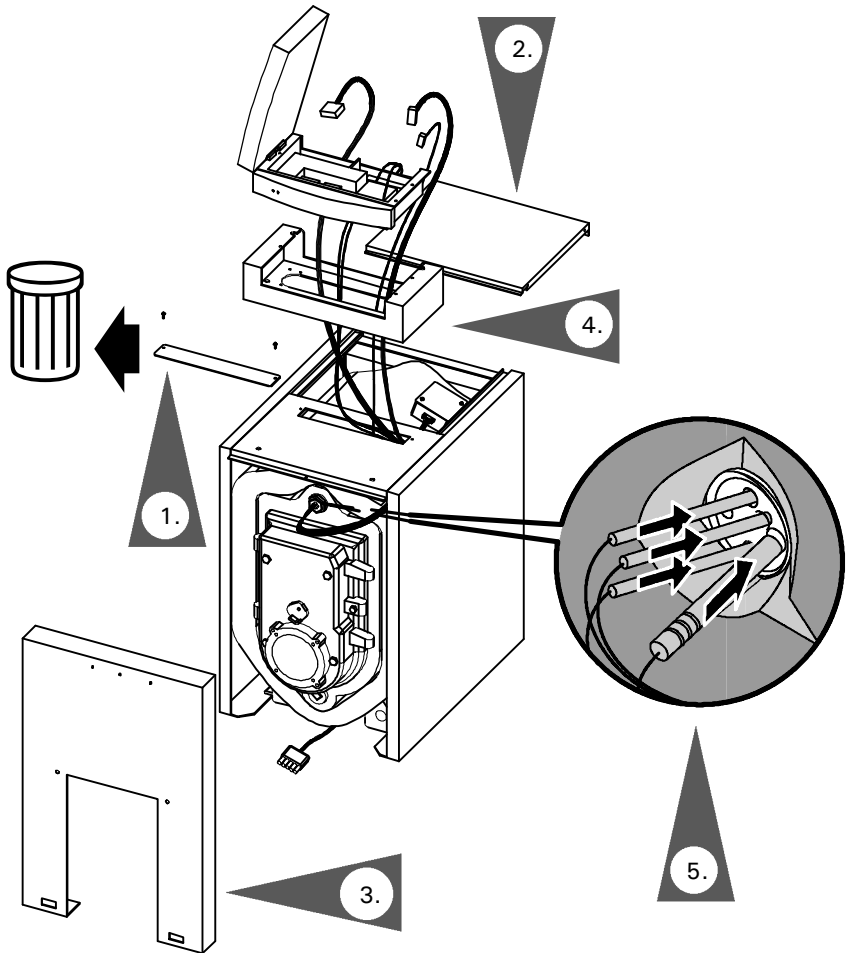

Fig. 43
1. Run the #41 plug-in connector cable of the Vitotronic control down behind the front panel of the boiler and out through the bottom. (Fig. 43)
2. Connect the female #41 plug of the burner to the male #41 plug of the Vitotronic control. (Fig. 43)